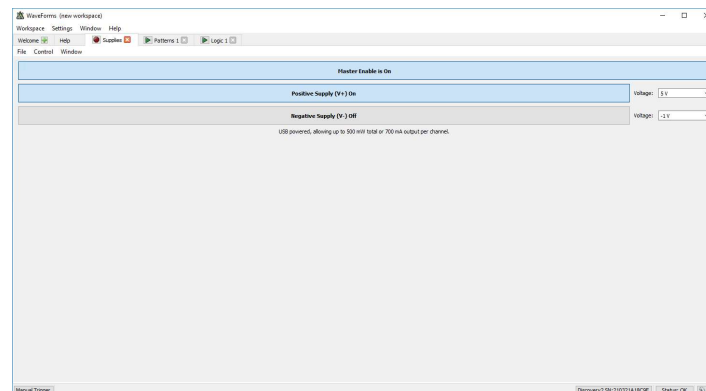

Figure 9: Power Supply Enabled at 5V
9. Turn on a 5V positive power supply in the Supplies tab. Standard 7400 logic chips expect a 5V energy to gate onto output signals. **Note** that there may be a “current surge” error message when the power supply is first turned on. If this occurs, just try again. **Refer** to Figure 9.